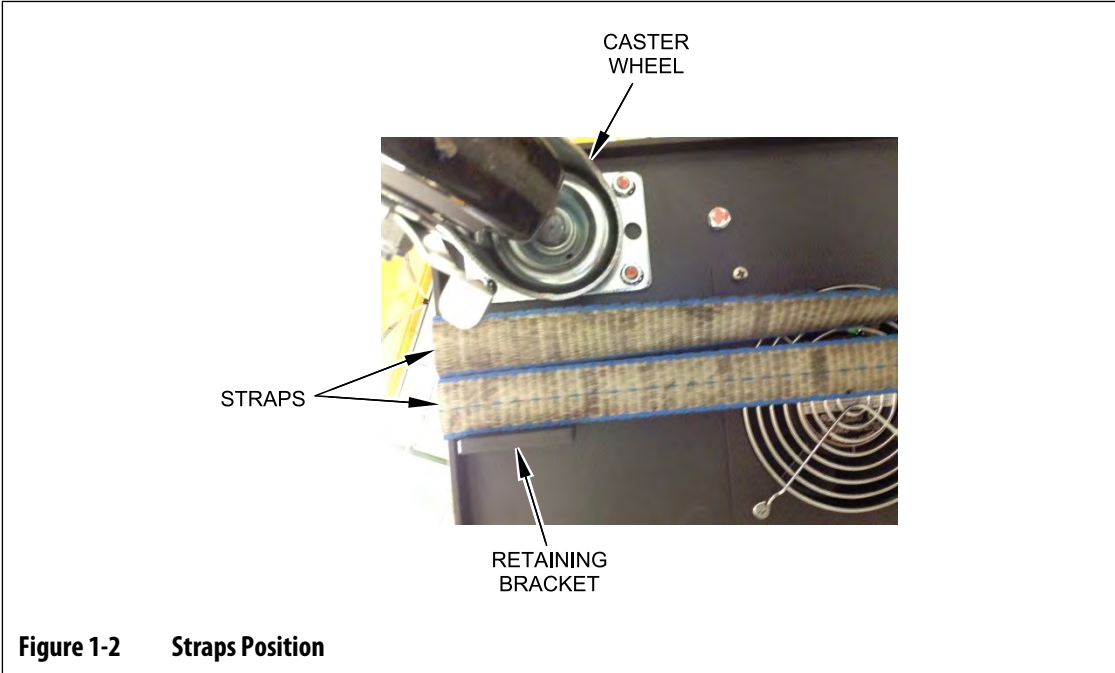

Figure 1-2 Straps Position
- a. Make sure that the straps are put between the caster wheels and the retaining brackets under the base of the controller. Refer to Figure 1-2.